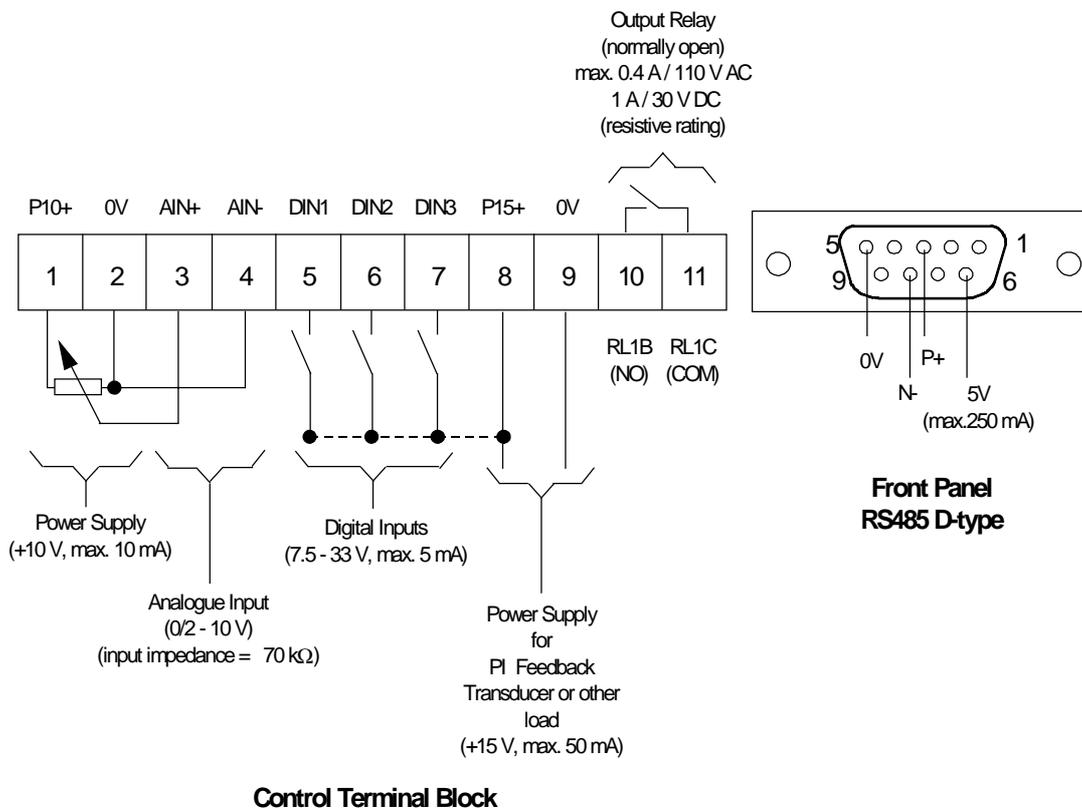
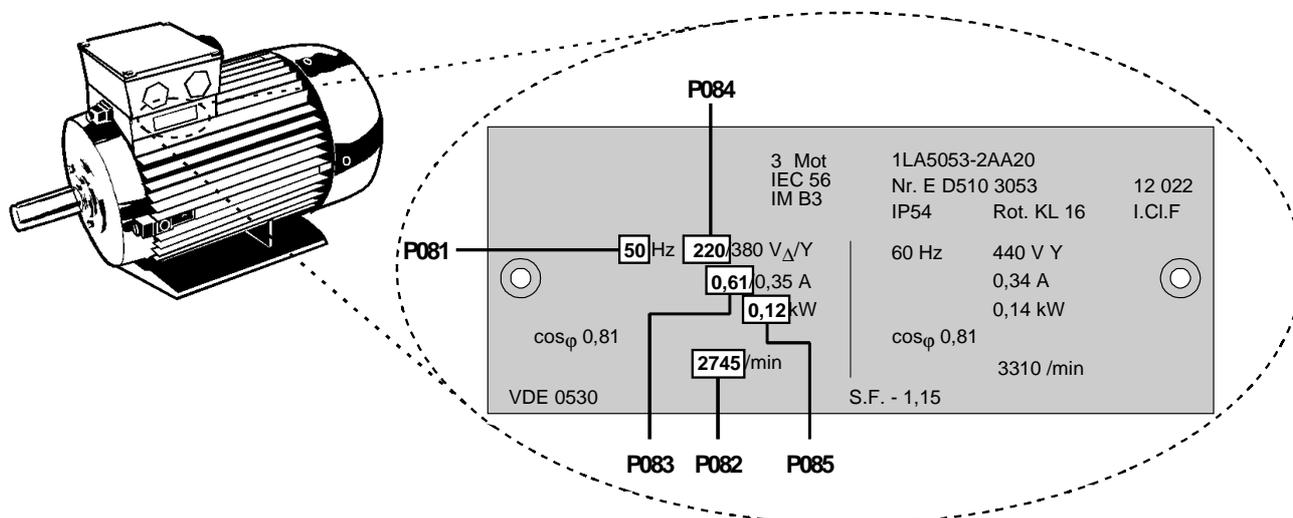

Figure 2.2.4: Control Connections
Figure 3.2.1: Typical Motor Rating Plate Example
15. **Connect the control leads as shown in Figures 2.2.4 and 2.2.6, Section 2.2.4 and 2.2.6.**
- (1) The inverter does not have a main power switch and is live when the mains supply is connected. It waits, with the output disabled, until the RUN button is pressed or for the presence of a digital ON signal at terminal 5 (rotate right) or terminal 6 (rotate left) - see parameters P051 - P053.
- (2) If output frequency is selected to be displayed (P001 = 0), the corresponding setpoint is displayed approximately every 1.5 seconds while the inverter is stopped.
- (3) The inverter is programmed at the factory for standard applications on NORD four-pole standard motors. When using other motors it is necessary to enter the specifications from the motor's rating plate into parameters P081 to P085 (see Figure 3.2.1). **Note: Access to these parameters is not possible unless P009 has been set to 002 or 003.**
- (1) Connect control terminal 5 to terminal 8 via a simple on/off switch. This sets up the motor for clockwise rotation (default).
- (2) Apply mains power to the inverter. Set parameter P009 to 002 or 003 to enable all parameters to be adjusted.
- (3) Check that parameter P006 is set to 000 to specify digital setpoint.
- (4) Set parameter P007 to 000 to specify digital input (i.e. DIN1 (terminal 5) in this case) and disable the front panel controls.
- (5) Set parameter P005 to the desired frequency setpoint.
- (6) Set parameters P081 to P085 in accordance with the rating plate on the motor (see *Figure 3.2.1*).
- (2) Connect a 4.7 k Ω potentiometer to the control terminals as shown in *Figure 2.2.4* or connect pin 2 (0V) to pin 4 and a 0 - 10 V signal between pin 2 (0V) and pin 3 (AIN+).
- (3) Apply mains power to the inverter. Set parameter P009 to 002 or 003 to enable all parameters to be adjusted.
- (4) Set parameter P006 to 001 to specify analogue setpoint.
- (5) Set parameter P007 to 000 to specify digital input (i.e. DIN1 (terminal 5) in this case) and disable the front panel controls.
- (6) Set parameters P021 and P022 to specify the minimum and maximum output frequency settings.
- (7) Set parameters P081 to P085 in accordance with the rating plate on the motor (see *Figure 3.2.1*).